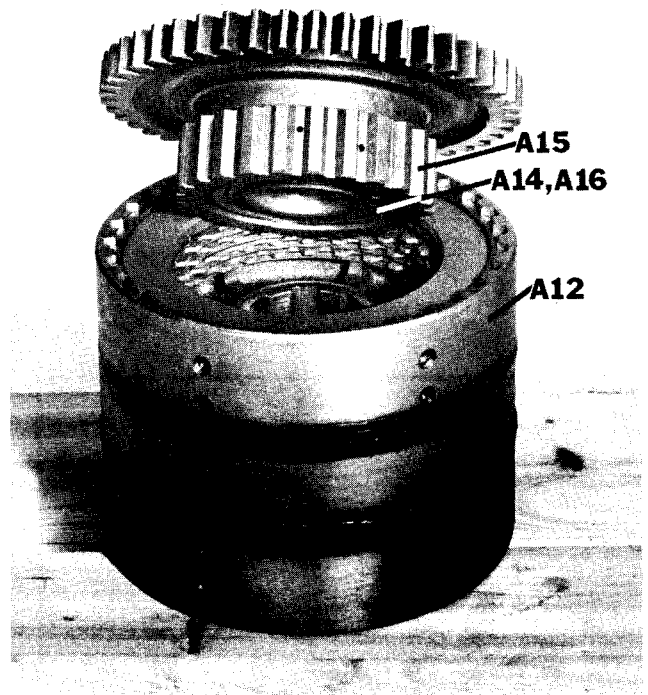

Figure 36
1. Place clutch gear (A-15) with bearings (A-14 and A-16) into either end of assembled clutch pack (A-12) by turning the clutch gear from side to side until the four clutch discs have mated with the clutch hub (Figure 36).